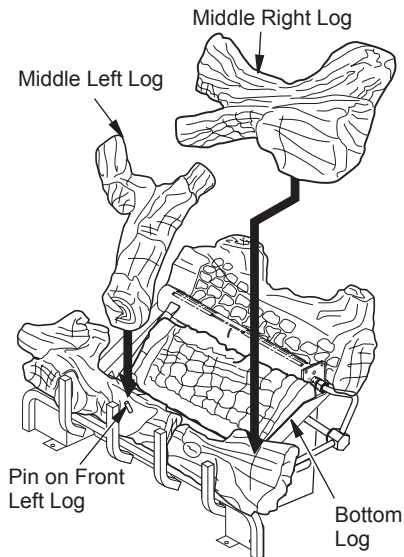

Figure 22 - Installing Top Logs
5. Place middle right log over front right and bottom logs as shown in Figure 22. Be sure hole in middle right log seats over pin in bottom log.
6. Place middle left log over front left and bottom logs as shown in Figure 22. Be sure hole in middle left log seats over pin in front left log.